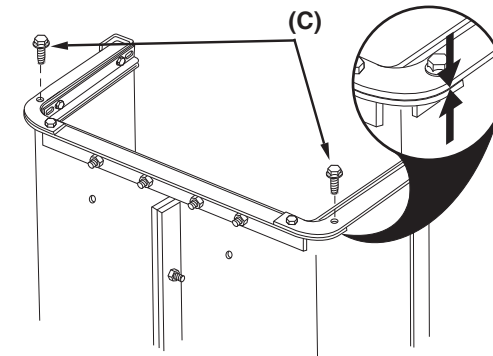

Figure 6
**STEP 6 (SEE FIGURE 6):** Secure the left and right rear angle brackets to the lower rear angle bracket using two 5/16" x 3/4" self tapping bolts (C). Be sure that there is no gap left between the angle brackets as shown in figure 6.